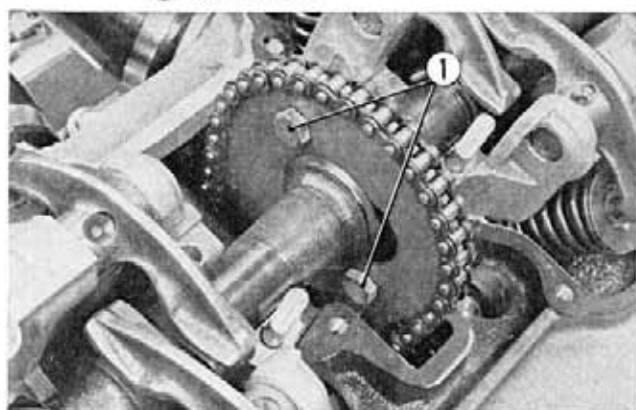

Fig. 3-42 ① Cam sprocket mounting bolts
② Lock nut
③ Tensioner adjusting bolt
d. At this point, the sprocket can be mounted on the camshaft with the two sprocket mounting bolts. (Fig. 3-42)